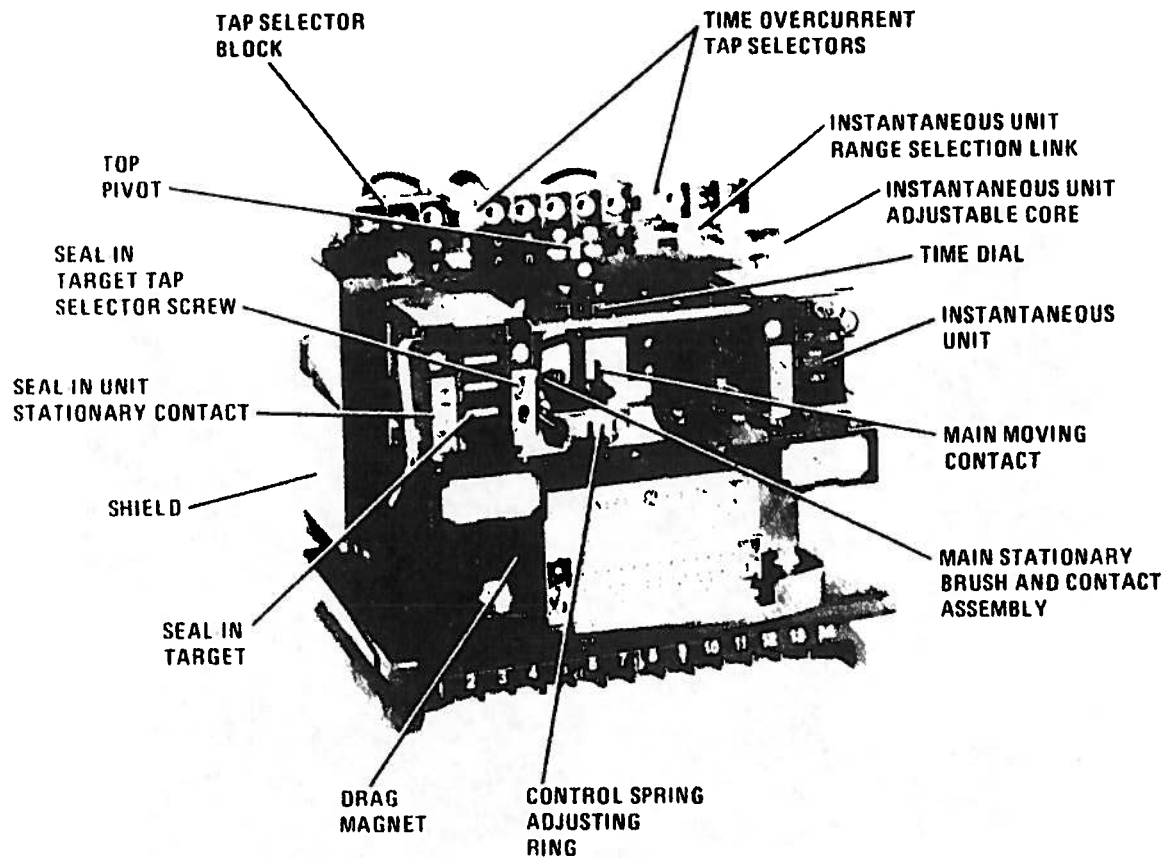

Figure 1 (8042708) Type IFC53B Relay, Removed from Case, Front View
1. Select the desired range by setting the link in the proper position (see Figure 1 and the Internal Connections Diagram, Figures 4 and 5). Whenever possible, be sure to select the higher range, since it has a higher continuous rating.
It would be preferable to adjust the operating time as nearly as possible to 1.78, 1.31 or 0.92 seconds. The drag magnet assembly should be approximately in the middle of its travel. The drag magnet assembly is adjusted by loosening the two screws securing it to the support structure (see Figure 1). Moving the drag magnet towards the disk and shaft decreases the operating time and moving the drag magnet away from the disk and shaft increases the operating time. The screws securing the drag magnet assembly to the support structure must be tight before proceeding with other time checks.